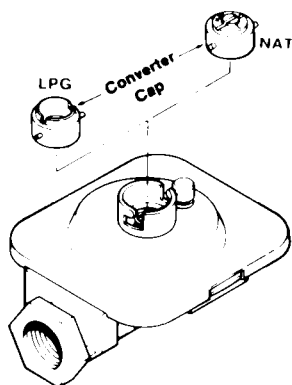

FIGURE 12
1. Remove the cap, push down and turn counter-clockwise. Turn the cap over and reinstall (figure 12).
- Change the appliance pressure regulator from natural to LP setting. (See figure 12, 13 or 14).
- Change the appliance pressure regulator from LP to natural setting. (See figure 12, 13 or 14).